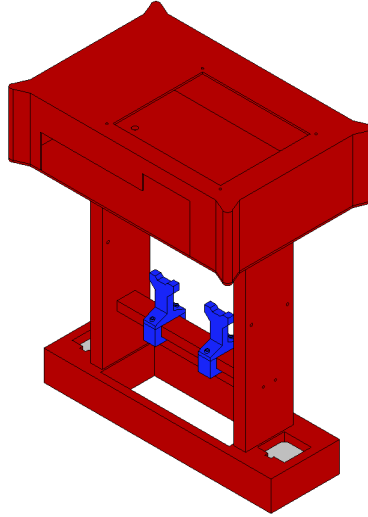

Figure 29: GPR holder assembly with the *VNA mount* attached on top.
7. Focus on the *VNA cover* element. Notice the four holes at the bottom of the part. These holes are intended for M5 inserts. Heat four (4) M5 inserts using a heat gun or a soldering iron and place them into their respective holes. Allow the inserts to cool down. Attach the *VNA cover* on top of the *VNA mount* using four (4) M5 screws. Figure 29 shows the assembly.